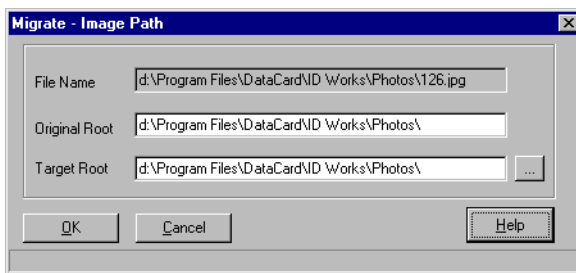

Figure 4-7. Image Path Dialog
7. If you specified an image path field in Step 5a and a record containing a path is found, the system displays the dialog shown in Figure 4-7.